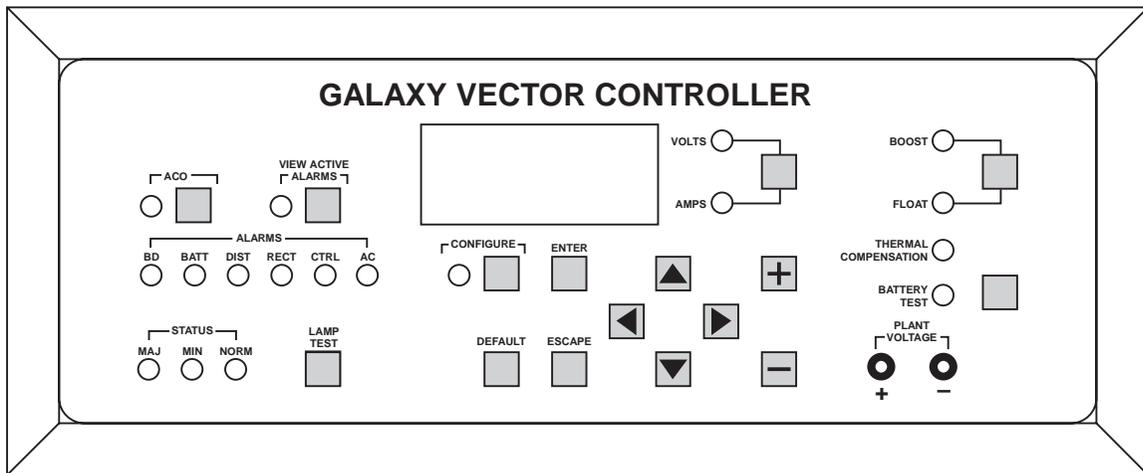

Figure 15-4: Galaxy Vector Controller Front Panel
- Figure 15-4 Vector Controller